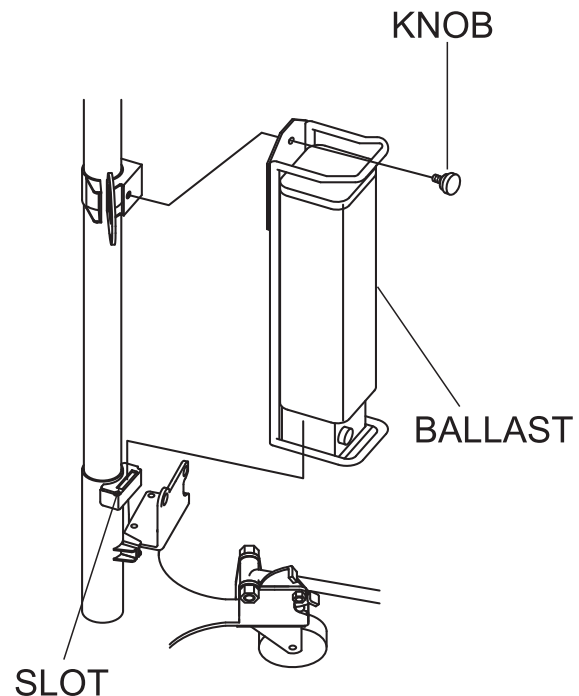

Figure 32. Ballast Removal
3. Unscrew and remove the knob bolt that attaches the ballast to the mast (Figure 32).